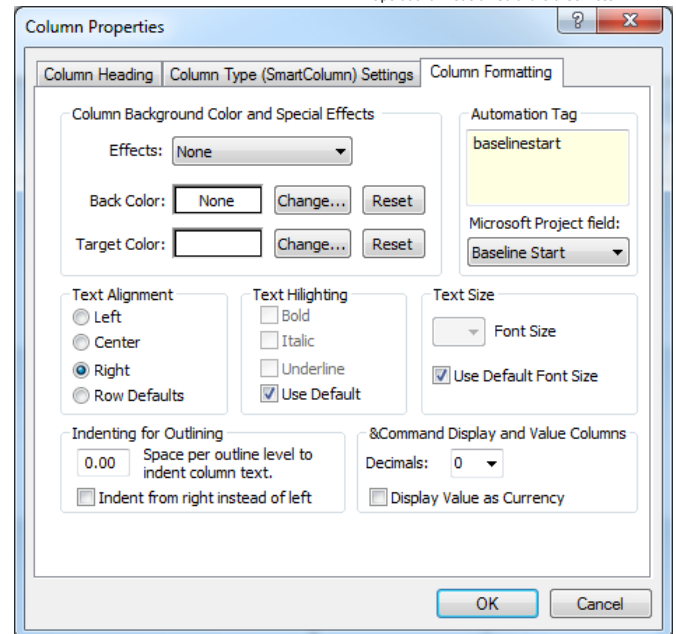

Figure 4
To change the data being populated into a templates' column, double-click the column's header and then the Column Formatting tab (Figure 4). The automation tag is used by the Task Review Tool to determine the type of MS Project data that should be populated into it. This tag can be automatically populated by selecting the 'MS Project field' drop-down and selecting the field you would like to display. Doing this will automatically populate the automation tag with the appropriate value. In this example, the 'Baseline Start' date was selected. Notice that the automation tag shows 'baselinestart'. This is exactly how the field values needs to be displayed in order for it to be picked up by the tool.
- a. Directory – this field is where the export utility will look for Milestone Professional files. This field is defaulted to the save directory specified in the Critical Path settings dialog (Figure 4). The browse button will allow you to select a different directory.